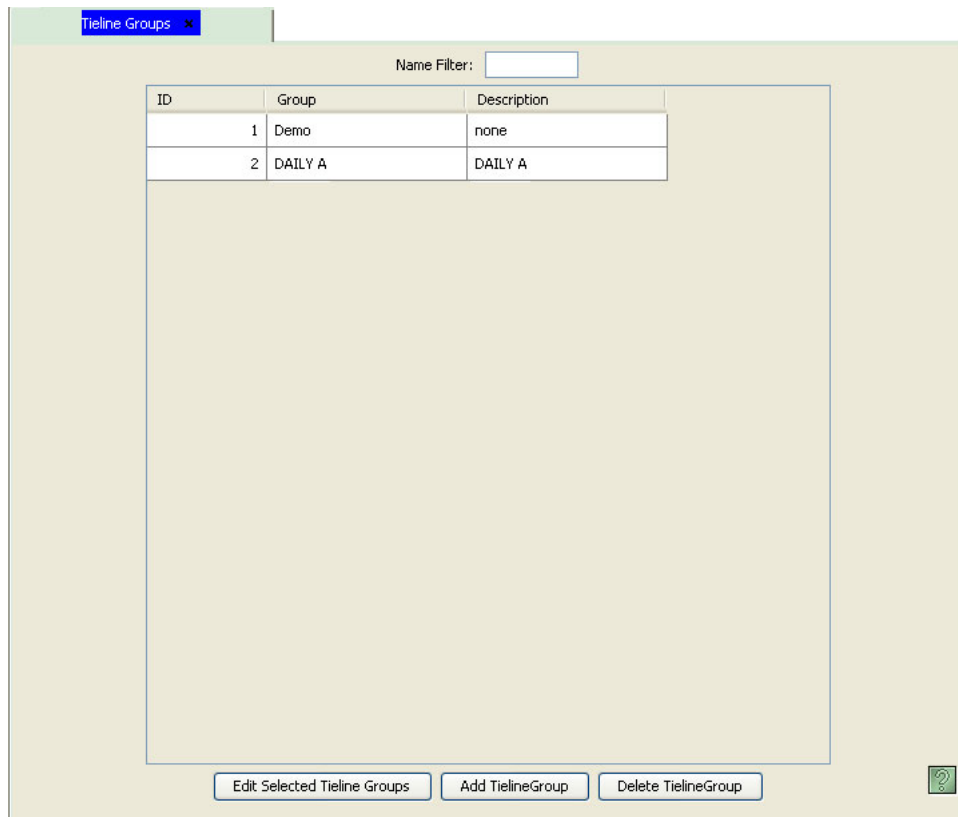

Figure 16-23. Tieline Groups Page
- 2 From the Navigation area, select the ‘Configuration’ pane and then ‘Tieline Groups’. The ‘Tieline Groups’ page displays, as shown in Figure 16-23. All tielines currently defined in the system are listed.